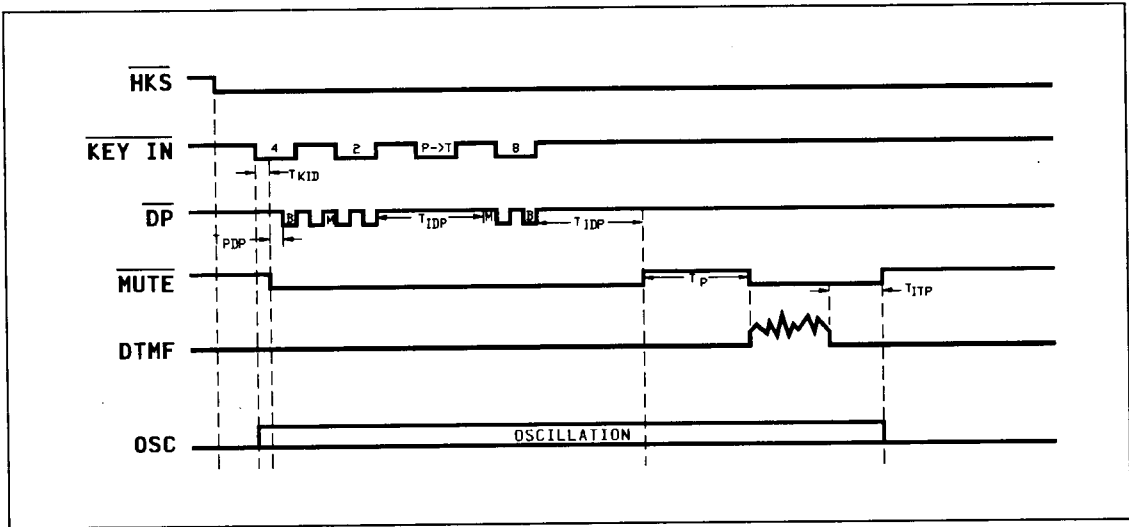

Figure 4. P->T Operation Timing Diagram in Normal Dialing
4. The P --> T function timing diagram is shown in Fig.4.
F. FLASH (F)